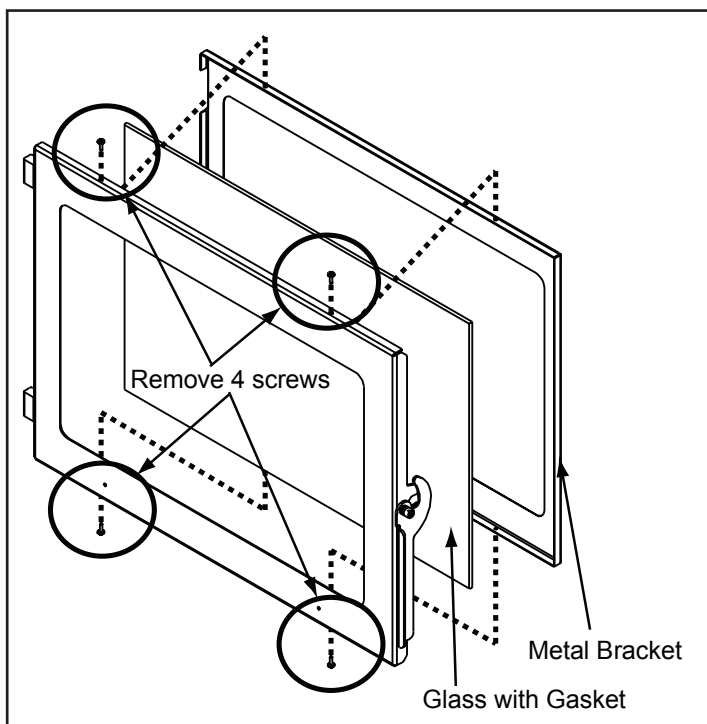

Figure 49.1
- Using a Phillips head screwdriver, remove 4 screws, 2 on the top and 2 on the bottom. **Figure 49.1.**